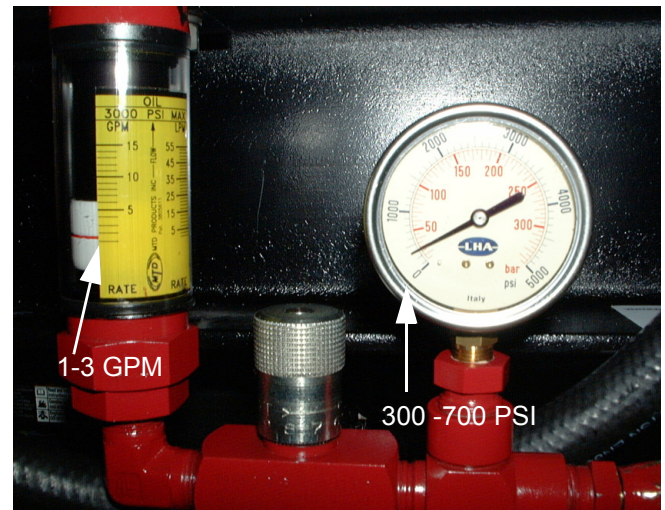

Figure 5
8. Continue to close the needle valve slowly until the high volume check valve closes and the engine RPM returns to normal.____ See Figure 5.